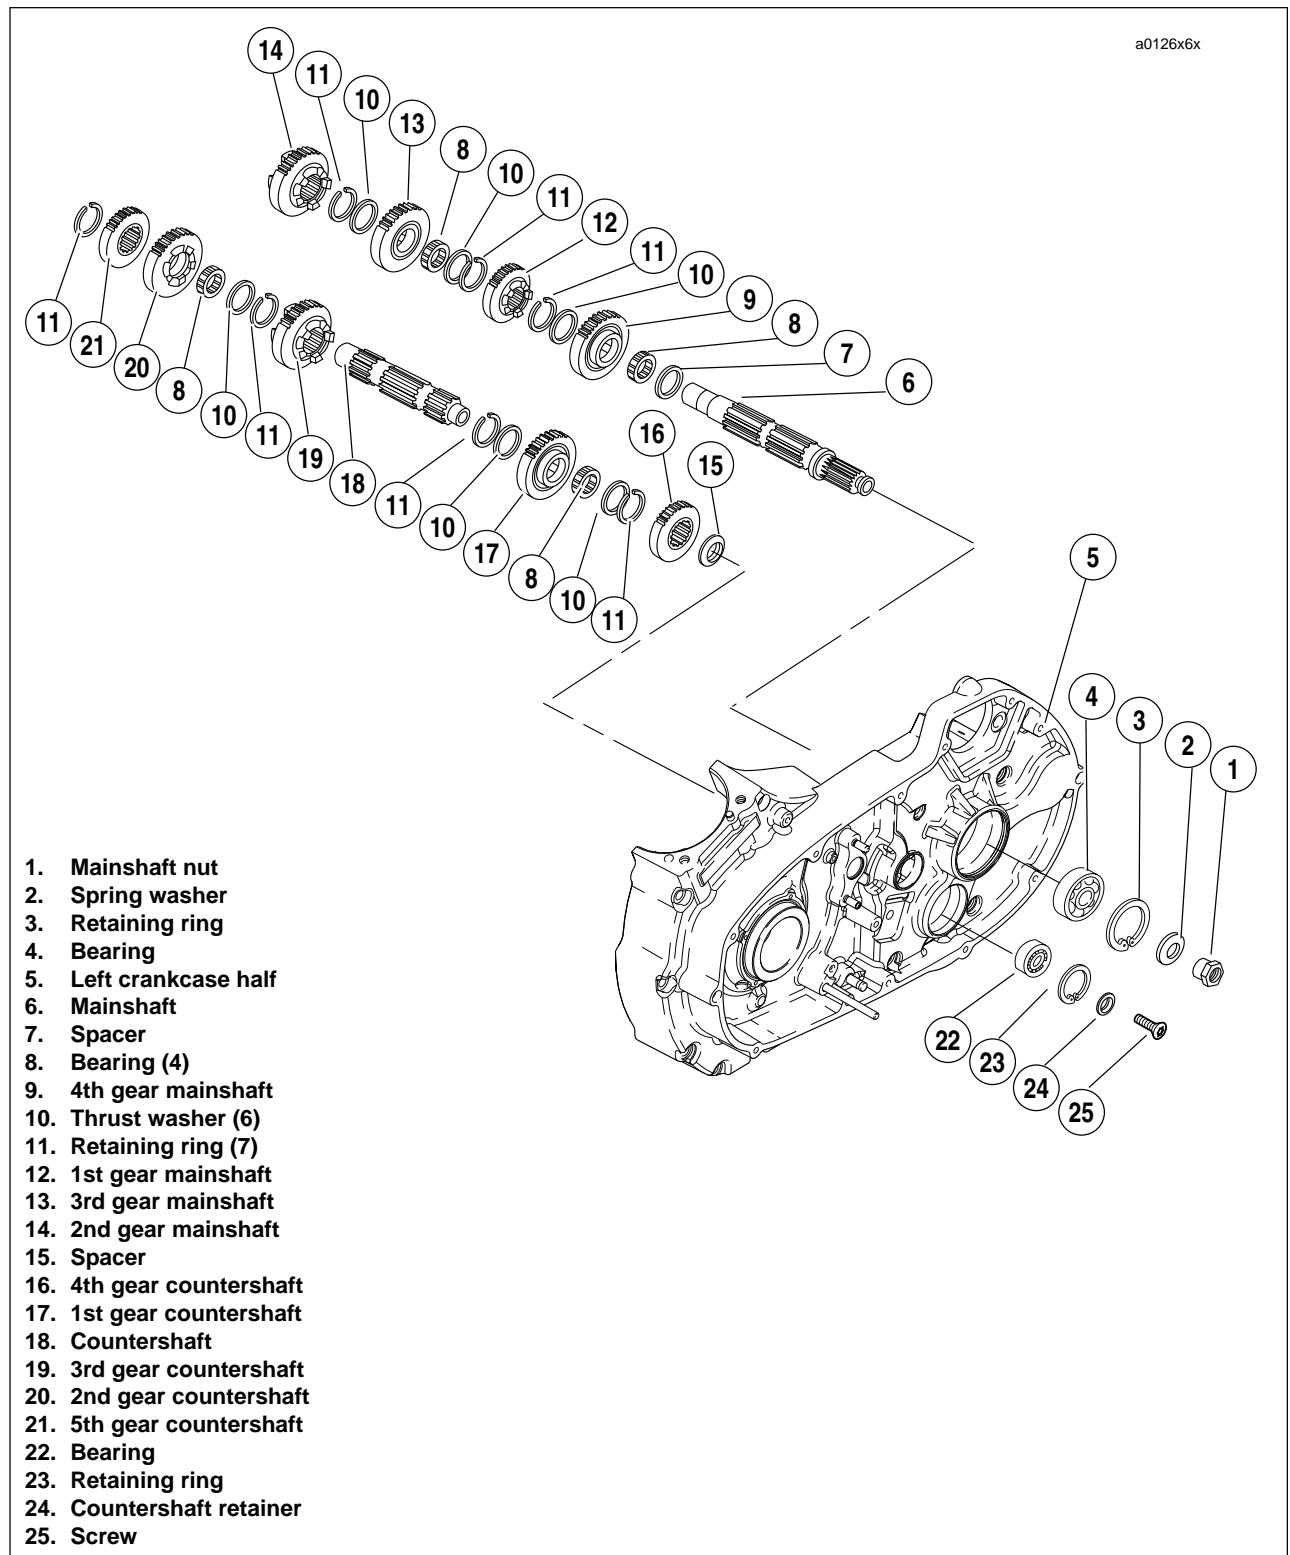

Figure 6-33. Transmission Assembly Left Crankcase Half
1. See Figure 6-33. Remove mainshaft 2nd (14) gear from mainshaft (6).
2. At mainshaft, between mainshaft 1st gear (12) and mainshaft 3rd gear (13), expand retaining ring (11) and move next to mainshaft 1st gear (12) along with thrust washer (10). Move mainshaft 3rd gear (13) as far as possible toward mainshaft 1st gear (12). Expand retaining ring (11) at opposite side of mainshaft 3rd gear (13) and slide off end of shaft. Slide thrust washer (10) off end of mainshaft
3. Remove mainshaft 3rd gear (13) and its split bearing (8)
4. Slide thrust washer (10) off end of mainshaft. Expand retaining ring (11), which is next to mainshaft 1st gear (12), and slide off end of shaft.
5. Remove mainshaft 1st gear (12) off mainshaft.
6. Expand retaining ring (11) and slide off end of shaft. Slide thrust washer (10) off end of mainshaft
7. Remove mainshaft 4th gear (9).
8. Remove split bearing (8) and spacer (7).
1. See Figure 6-33. Using RETAINING RING PLIERS (Part No. J-5586) remove and discard retaining ring (11) next to countershaft 5th gear (21). Slide countershaft 5th (21), and countershaft 2nd (20) off end of countershaft (18).
2. Remove split bearing (8) that was under countershaft 2nd gear (20) and thrust washer (10), including retaining ring (11) on the countershaft (6). Slide countershaft 3rd (19) gear off free end of shaft (18).
3. Remove beveled washer (spacer) (15) and countershaft 4th gear (16).
4. Expand retaining ring (11) located next to countershaft 1st gear (17). Remove retaining ring (11) and thrust washer (10). Slide countershaft 1st gear (17) off end of shaft. Remove split bearing (8).
5. Remove thrust washer (10). Expand remaining retaining ring (11) and slide off countershaft (18).